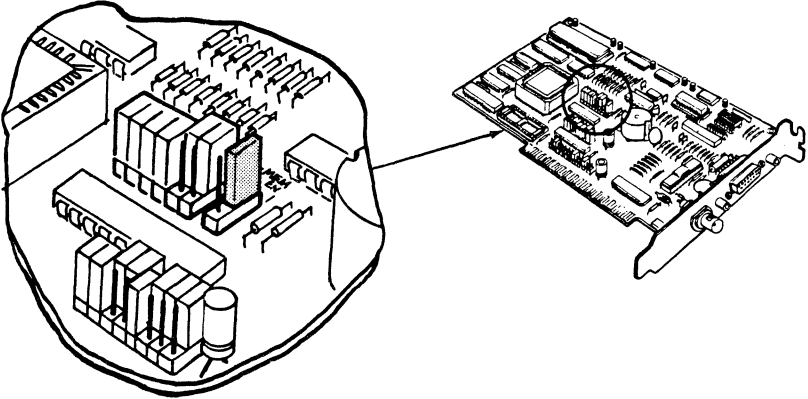

Figure 7: Memory Enable Jumper
**Memory Enable Jumper (figure 7)**